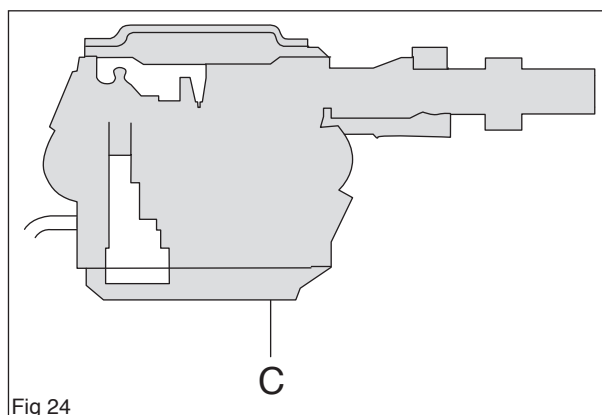

Fig 24
In the pump unit (C), fuel is pumped from the fuel tank to the metering unit. One side of the pump diaphragm is connected to the crankcase and pulses in time with the pressure changes in the crankcase. The other side of the diaphragm pumps the fuel. (see figure 24)